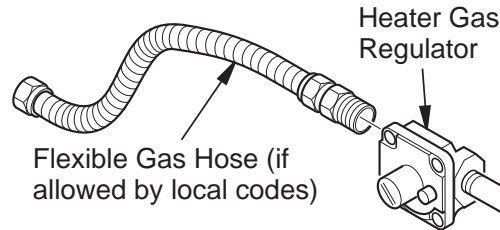

Figure 10 - Attaching Flexible Gas Hose to Heater Gas Regulator (Thermostatically-Controlled Models Only)
1. Apply pipe joint sealant lightly to male threads of gas fitting (provided). Connect approved flexible gas hose to gas regulator of heater (see **Figure 10**).